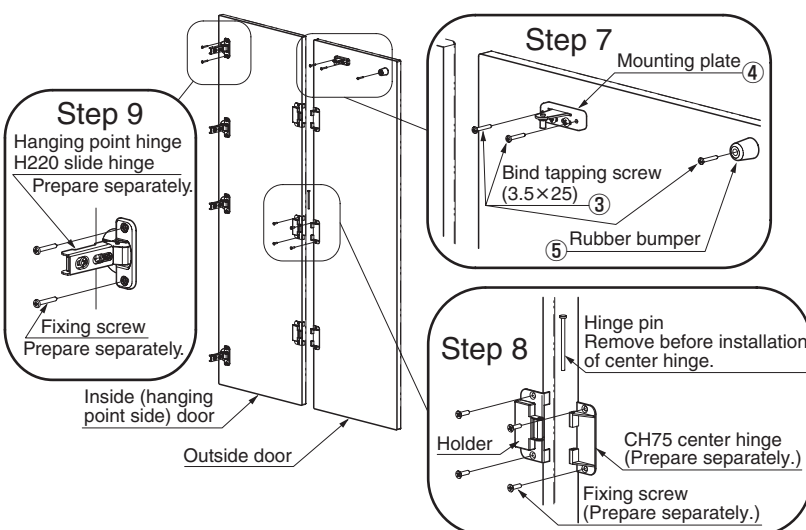

Fig. 8. Installation of mounting plate and hinges (for right-hand side)
- step7 Fix the mounting plate ④ and the rubber bumper ⑤ tightly to the specified position of the rear surface of an outside door with the bind tapping screws (3.5x25) ③ (Fig. 8).
- step8 Remove the hinge pin of the CH75 center hinge separating the latter into two halves and install them to the outside and inside (hanging point side) doors respectively. The hinge half with a holder should be installed to the inside door (Fig. 8).
- step9 Install the slide hinges to the inside door (Fig. 8).